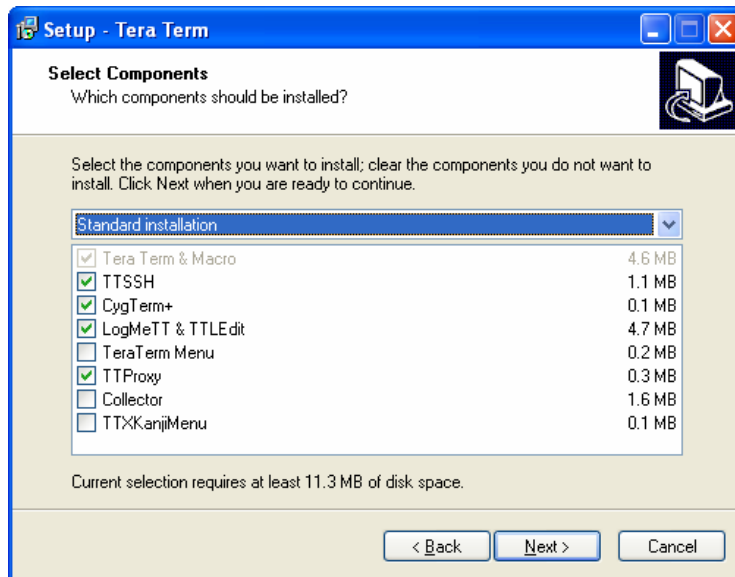

Figure 6-8: Select Components Screen
10. Select **Standard installation** on the Select Components screen, then click **N**ext (Figure 6-8).